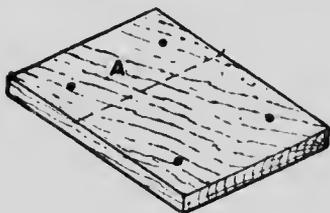
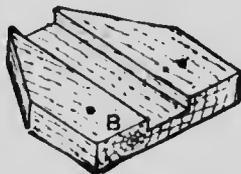

Fig. 16
Fig. 17
Figs. 16 and 17.—Details of Home-made Plough
Home-made ploughs are serviceable tools, and can be constructed from simple material, such as a chisel, some pieces of wood, and a few screws. Knock off the handle from an ordinary $\frac{1}{2}$ -in. chisel having a "shoulder" near the haft, and replace it with a cork; cut to the shape of Fig. 16 a piece of thin wood (say $\frac{1}{4}$ in. thick) $2\frac{1}{2}$ in. in breadth, its length depending on the length of the chisel. Place the chisel on the wood so that the cutting end overhangs about $1\frac{5}{8}$ in.; at the other end mark where the shoulder of the chisel touches the wood, and cut across just above the mark so that the shoulder falls over the edge and allows the chisel to lie flat on the wood. Cut another piece of wood thicker than the last (of full $\frac{1}{4}$ -in. stuff) to the shape of Fig. 17.
B. Put the second piece of wood, groove downwards, on the first one so that the square end B of Fig. 17 rests upon the portion marked A of Fig. 16, allowing the pointed end to overhang. Screw the two pieces together from underneath, taking care
to countersink the screw-heads. In the tunnel thus formed insert the chisel with its *bevelled edge upwards*, as it must always be when in use, and see that it has a rather loose fit. If it is all right, the cutting edge will project about $\frac{3}{8}$ in. at one end, and the shoulder will just fall over the edge at the other end. In a piece of wood c (Fig. 18), measuring, say, 2 in. by $\frac{1}{2}$ in. by $\frac{1}{2}$ in., make a groove of the same width as before, but a trifle deeper than the groove is at B (Fig. 17). Screw this last piece to the foundation A (Fig. 18) so that the groove en-
of course, intended to be pushed to and fro upon the right cheek of the press; but the tool, as it stands, will not cut straight through so as to leave a nice flat surface, but will rise until it has made a "hog's-back." To prevent this, provide a bar of wood κ (Figs. 18 and 19), which should be fixed at one end to the top G of the plough, and should rest at the other end on a guide-rail J fixed to the top face of the left cheek of the press. The bar should be rigid, say of $\frac{1}{2}$ -in. stuff about 8 in. long, and be fixed to the plough with two screws. The top surface of the rail must be level with the top face of B (see Fig. 18); the easiest way to effect this will be to make the rail J of the same stuff as Fig. 17, and let it stand at each end on feet L (Fig. 18), made of the same stuff as Fig. 16. The bar will then lie quite horizontal across the press. Notice, too, that the rail J should be set back 1 in. or more from the inner edge of the left cheek, otherwise it will interfere with the "backing" operations.